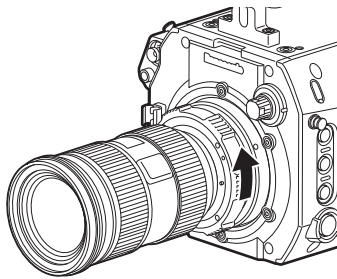

Fig. 3
- 3** Turn the lens fixing ring to securely fix the lens. (Fig. 3)